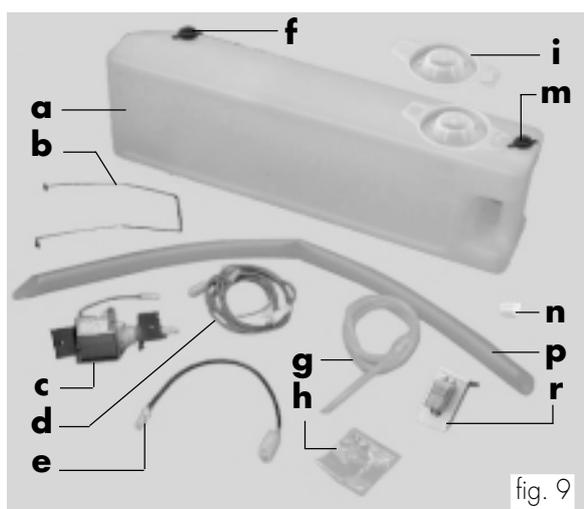

fig. 9
Assembly kit (fig. 9)
- Tighten the pump by means of the two screws and two washers 4,3x16 (ref. **h**, fig. 9) to the bottom (fig. 17).
- Tighten the relay and support plate (ref. **r**, fig. 9) by using the screws previously taken from the inlet solenoid valve (fig. 16)